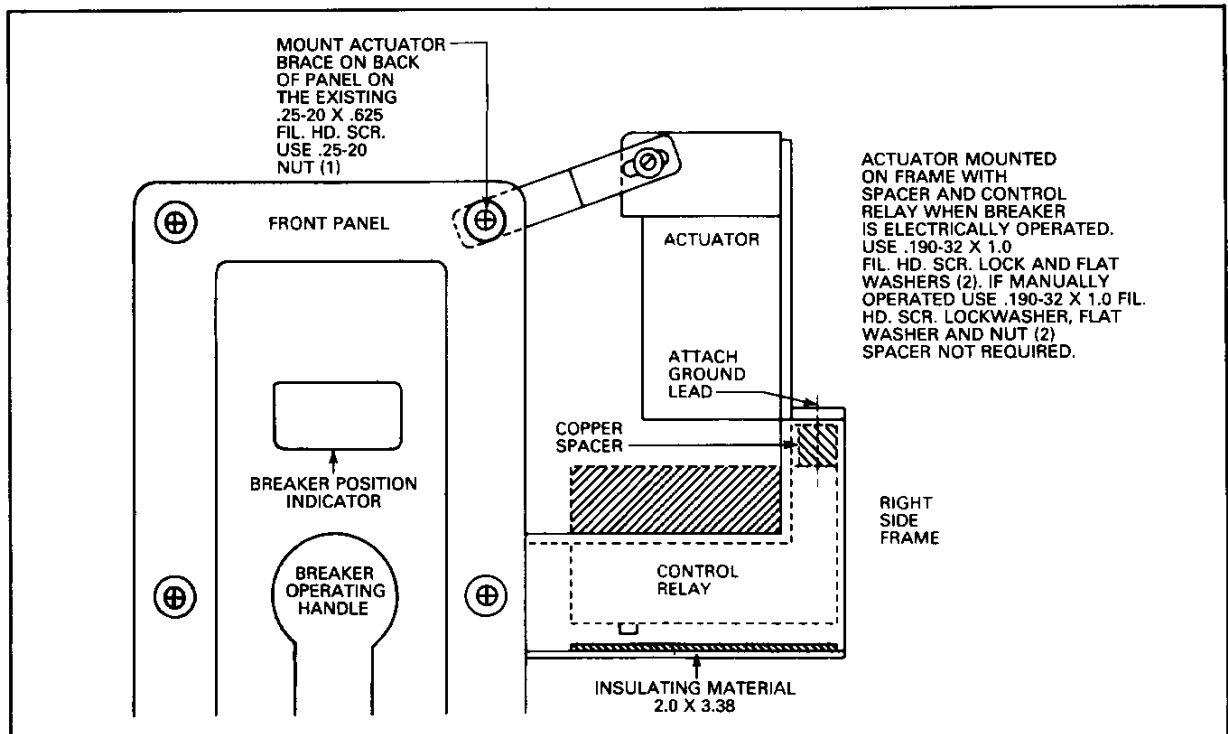

Fig. 6
Step 6: Secure the cross brace between the actuator and existing .25-20 x 5/8" phillips head screw located on the top right of the front panel using a .25-20 nut. See Fig. 6.